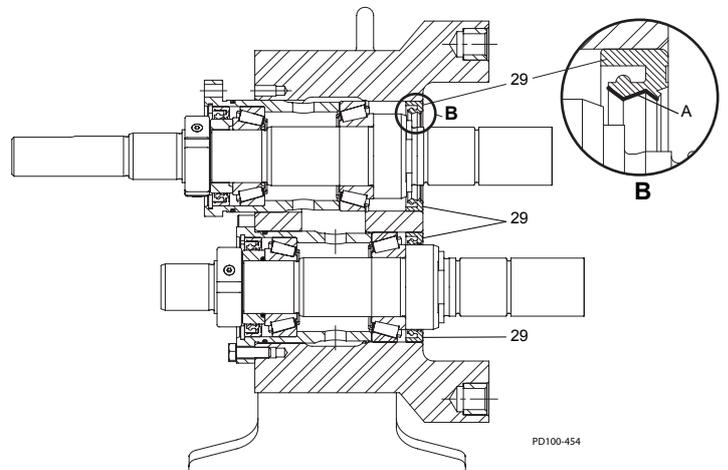
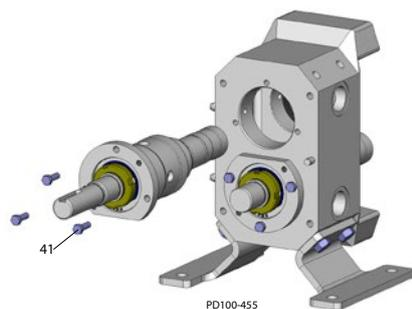

Figure 48 - Apply Bearing Grease
Figure 49 - Secure with Cap Screw
1. See Figure 48. Apply a coating of bearing grease to the inside diameter (item A) of the front lip seals (item 29).
2. Install the shaft assemblies into the gear case and secure them with cap screws (Figure 49, item 41). Apply a light film of bearing grease to the bores and bearing cups to ease installation. Use care to prevent damage to the lip seals (Figure 48, item 29) during assembly.